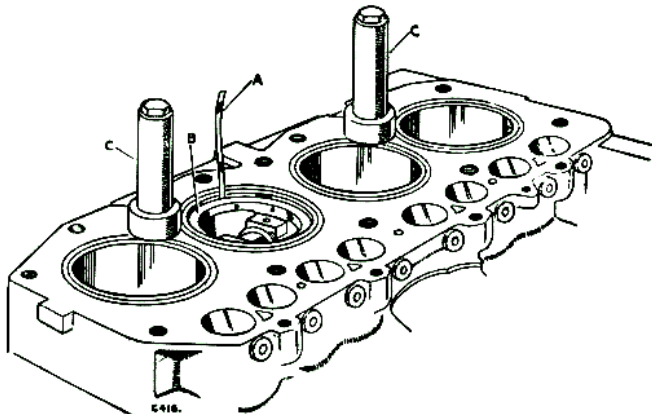

Fig. A-411—Checking piston clearance
1. When fitting pistons, the clearance in liner bore should be in accordance with the dimensions laid down in the Data Section. In the absence of suitably accurate measuring instruments, a long feeler, .004 in. (0,10 mm) thick, may be inserted in the thrust side of the liner bore, as illustrated in Fig. A-411, and the piston located crown downward. The piston should become a tight fit when the bottom of skirt enters the bore.